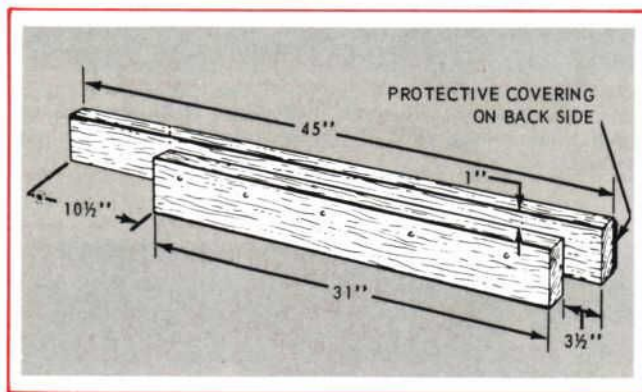

Figure 14—Here are the dimensions of the wood adapter device required for towing the 1971-72 Capri safely and without damaging sheet metal or painted surfaces.
1. Obtain two pieces of 2" x 4" wood and construct an adapter device using the dimensions shown in Figure 14. Join the two pieces of wood together using nails or screws, and install protective covering on the back side of the device to cushion the block against sheet metal and to prevent paint damage.